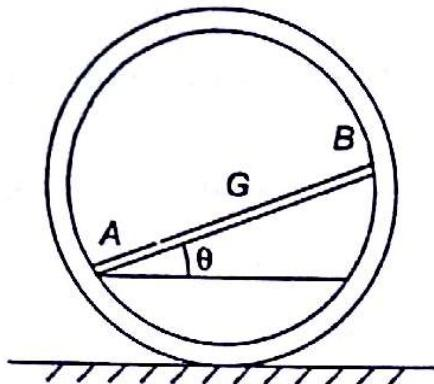

Fig. 15.21
15.1 A uniform bar AB of mass m is maintained inside the smooth surface of a cylindrical drum translating and accelerating at $0.6 g$. Find angle θ to maintain bar in same position during motion (Fig. 15.21).